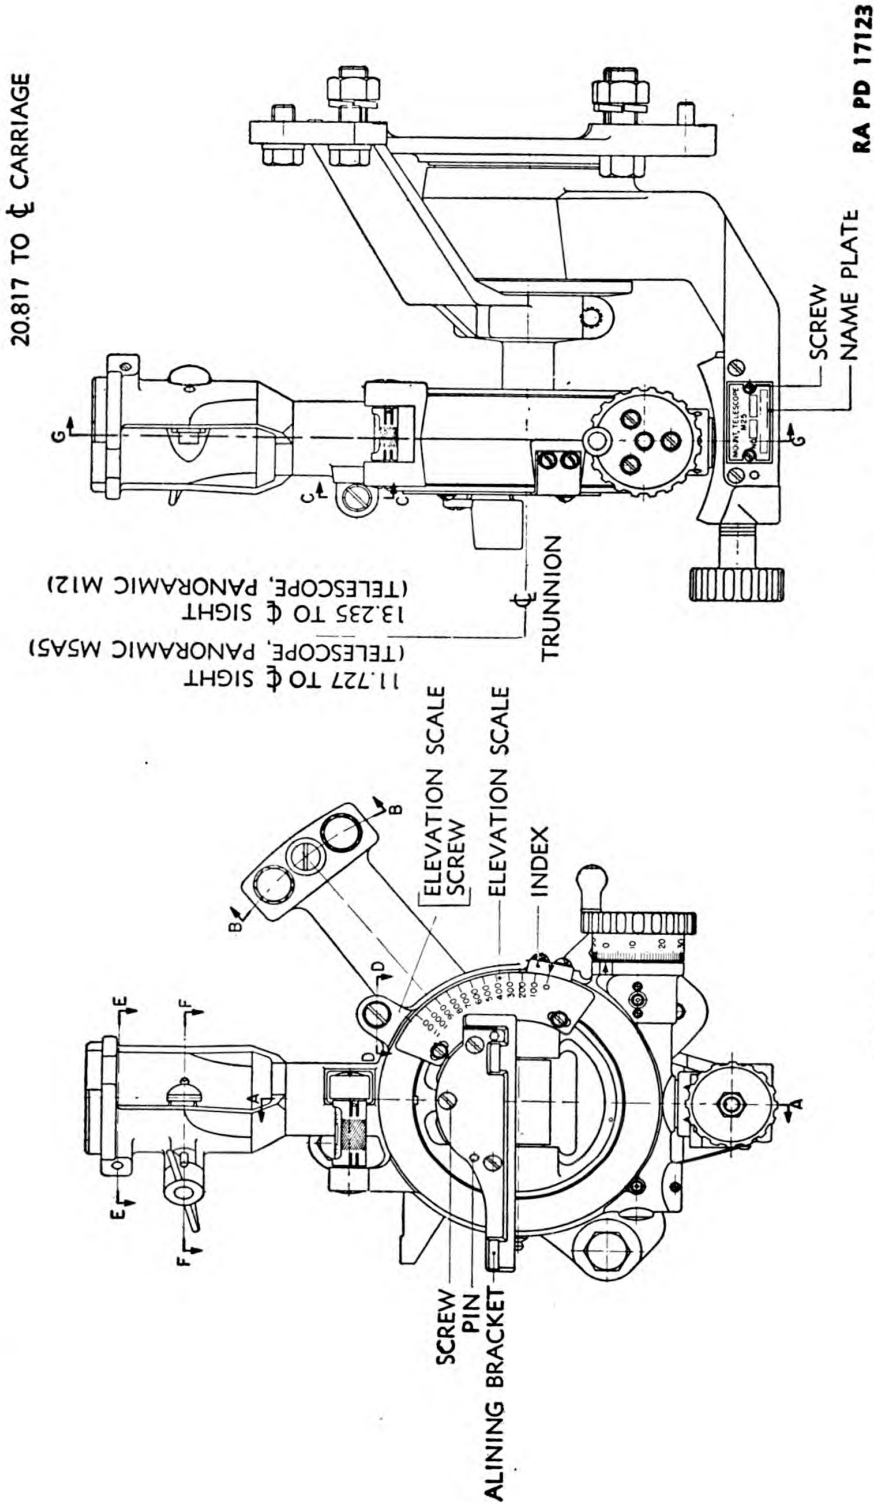

FIGURE 3.—Telescope mount M25—assembly views.
d. The telescope socket is pinned to the upper part of the telescope mount body assembly (fig. 1). This socket has accurately machined surfaces for locating the panoramic telescope. The telescope retaining shaft with torsion spring, located on the upper part of the socket, holds the telescope in position. Two tangent adjusting screws with locking screw make possible a small lateral adjustment for the telescope. In the lower part of the socket is a cylindrical hole for the collar of the panoramic telescope. Figures 3, 4, and 5 are assembled and sectioned views of the telescope mount.